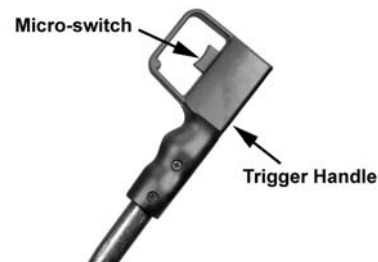

Figure 8
Power Switch – The *power switch* has two positions, *off* and *on*. To operate the machine, the *Power switch* must be set to *on*. Then depress *micro-switch* (Figure 8) in the *trigger handle* to start.
Trigger Handle – To operate, the *On/Off switch* must be set to *on* and the *microswitch* on the *trigger handle* (Figure 8) depressed.
5. Grip the *trigger handle* (Figure 8) on the control lever.